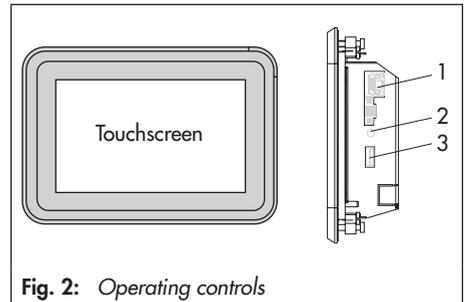

Fig. 2: Operating controls
- ➔ Plug the Ethernet cable (min. Cat 5, shielded) into the RJ-45 jack (see Fig. 2) of the web terminal and into the jack intended for it on the CPU module, automation unit or a switch.